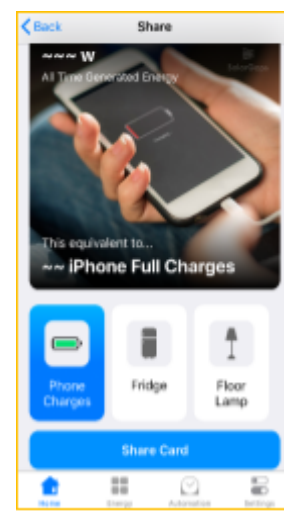

Figure 54
**10.12.2. All Time Generated Energy** (Fig. 54) allows viewing the amount of energy generated during the entire period of operation of BLINDS in the application. This amount is presented in the equivalent of smartphone charging cycles, number of working days of a fridge or operation hours of a lamp. To share this data, click **Share Card** and select the messaging option.